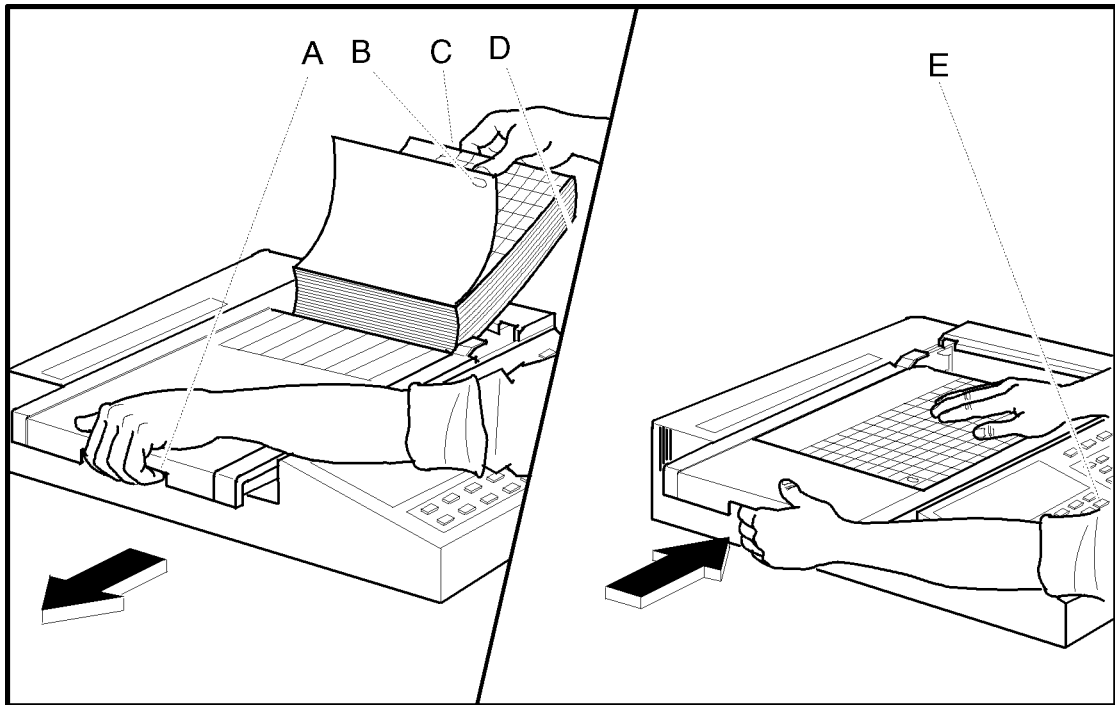

Figure A-6: Loading the Paper
4. Pull a sheet halfway out and to your left over the paper door. Make sure that the paper lays on the black roller evenly within the channel of the paper door. See Figure A-6.